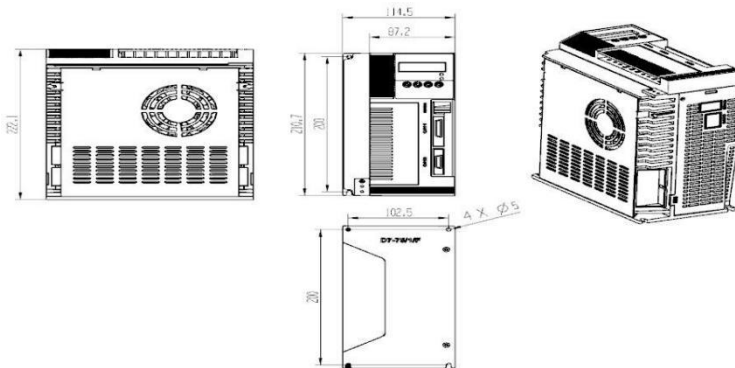

Figure 1.3 Appearance size figure of 25A, 50A and 75A.
- I. Pay attention to the installation direction (see figure 1.3).
- II. Pay attention to the installation distance (see figure 1.3).